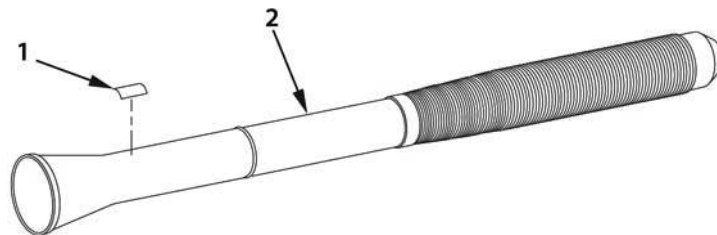

Figure 6. Installation of Item Unique Identification Label.
1. If label was removed, apply adhesive to new IUID label (Figure 6, Item 1) and place on cannon (Figure 6, Item 2) 6" + 2" in. (20.32 cm) from muzzle end. When adhesive is dry, apply protective clear coat to label.